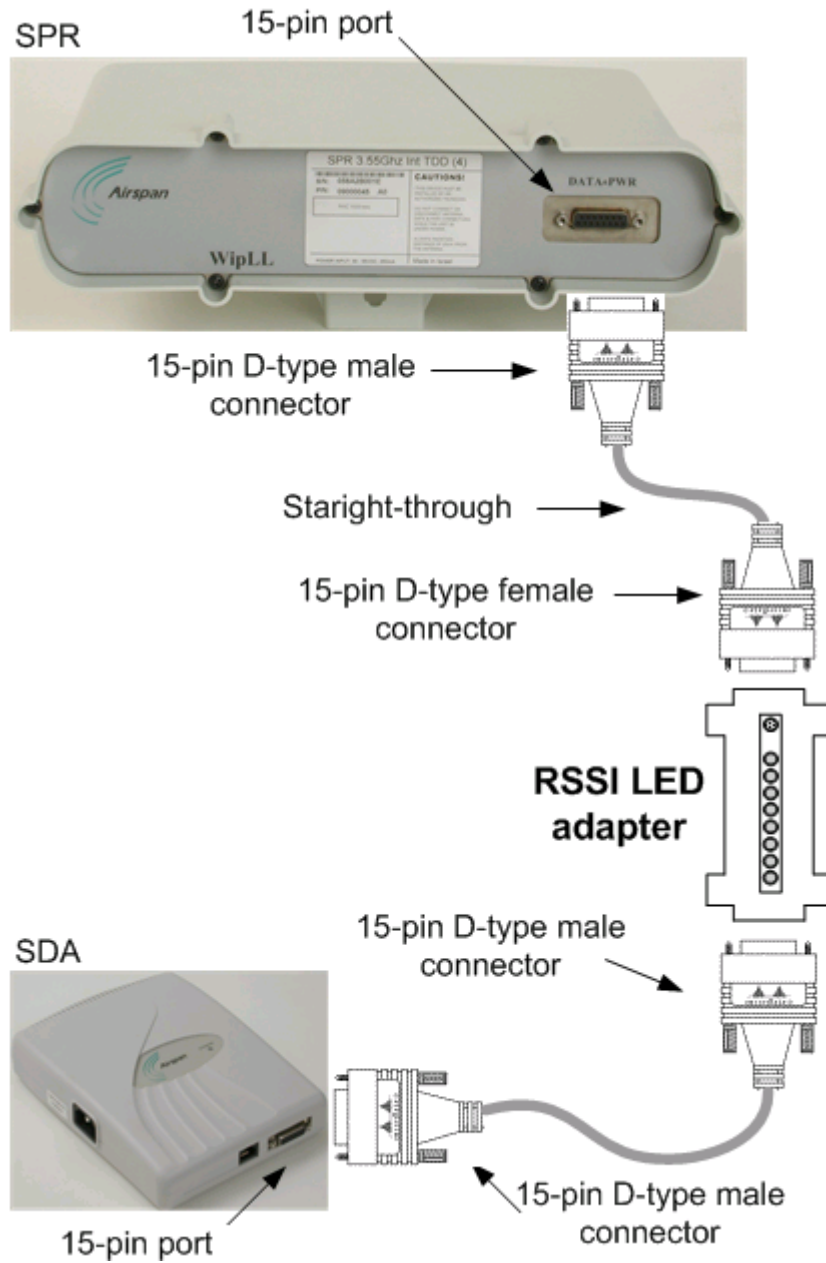

Figure 8-19: Connecting the RSS LED adapter
1. Connect the **15-pin D-type male** connector, at one end of the straight-through cable, to the SPR, as displayed in Figure 8-19.
2. Connect the **15-pin D-type female** connector, at the other end of the straight-through cable, to the RSS LED adapter, as displayed in Figure 8-19.
3. Connect the **15-pin D-type male** connector, at one end of the straight-through cable that originates from the SDA, to the RSS LED adapter, as displayed in Figure 8-19.